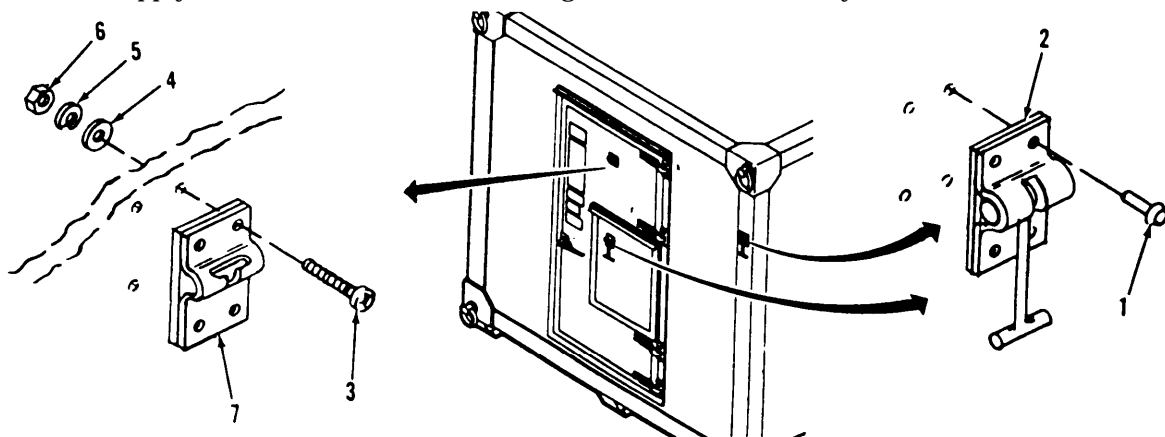

Figure 3-13. T-Latch Replacement.
a. Inspect. (Figure 3-13)
- (1) Inspect damaged T-latch assembly (2).
- (2) Inspect latch assembly holder (7) for damage and secure mounting.